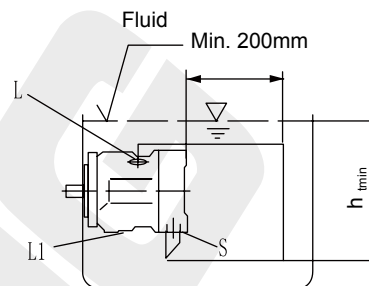

Figure 3
a) If the lowest fluid level is higher than the upper surface of the pump: block "L₁", open "L" and "S", connect the suction pipe to the suction port S, and the "L" pipe should be at least 200mm away from the suction pipe. (See Figure 3):